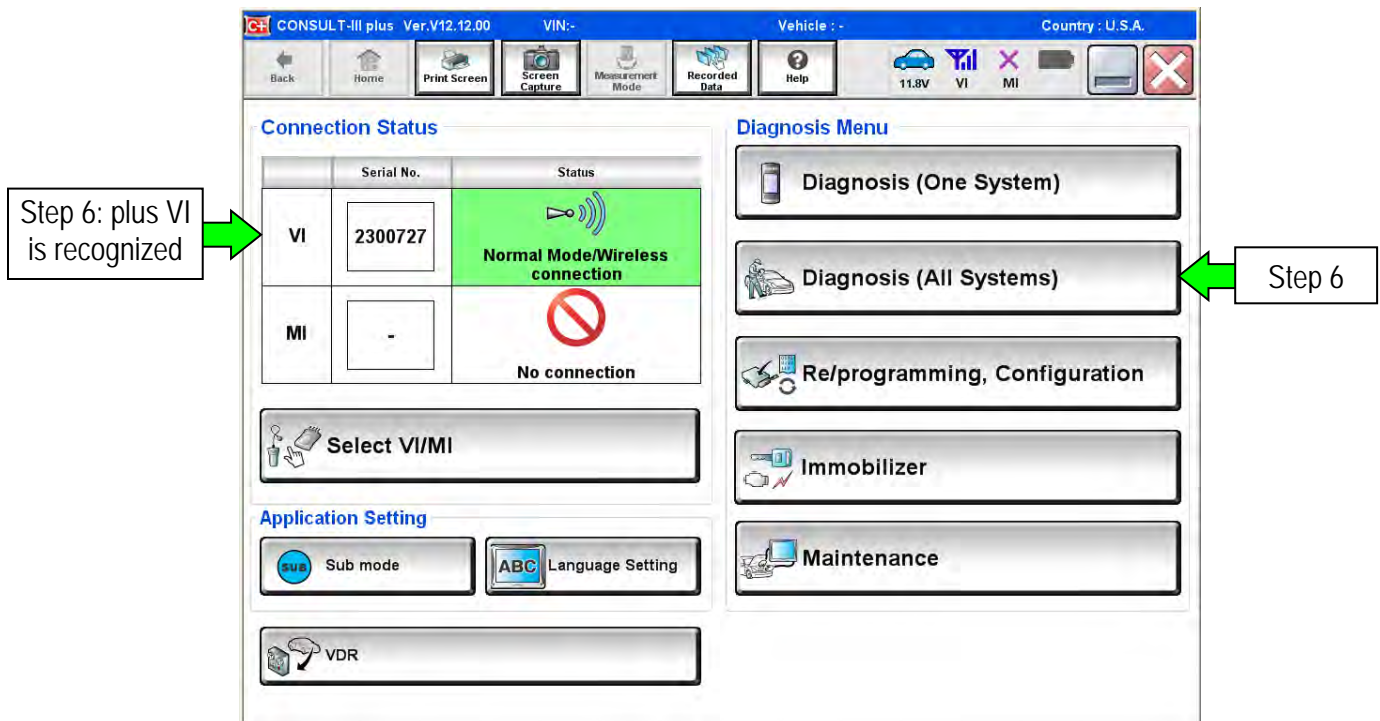

Figure 1
22. Select **Home** to return to the screen shown in Figure 1, page 5.